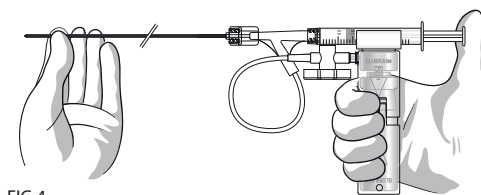

FIG.4
**Grasp (fig.4) the gas canister in one hand and, at the same time, take the distal end of the catheter in the other.** Test the spray on a surgical towel before using on the patient so as to judge the correct distance between the catheter tip and the area to be treated (2-5cm) and the right pressure to exert on the syringe plunger.